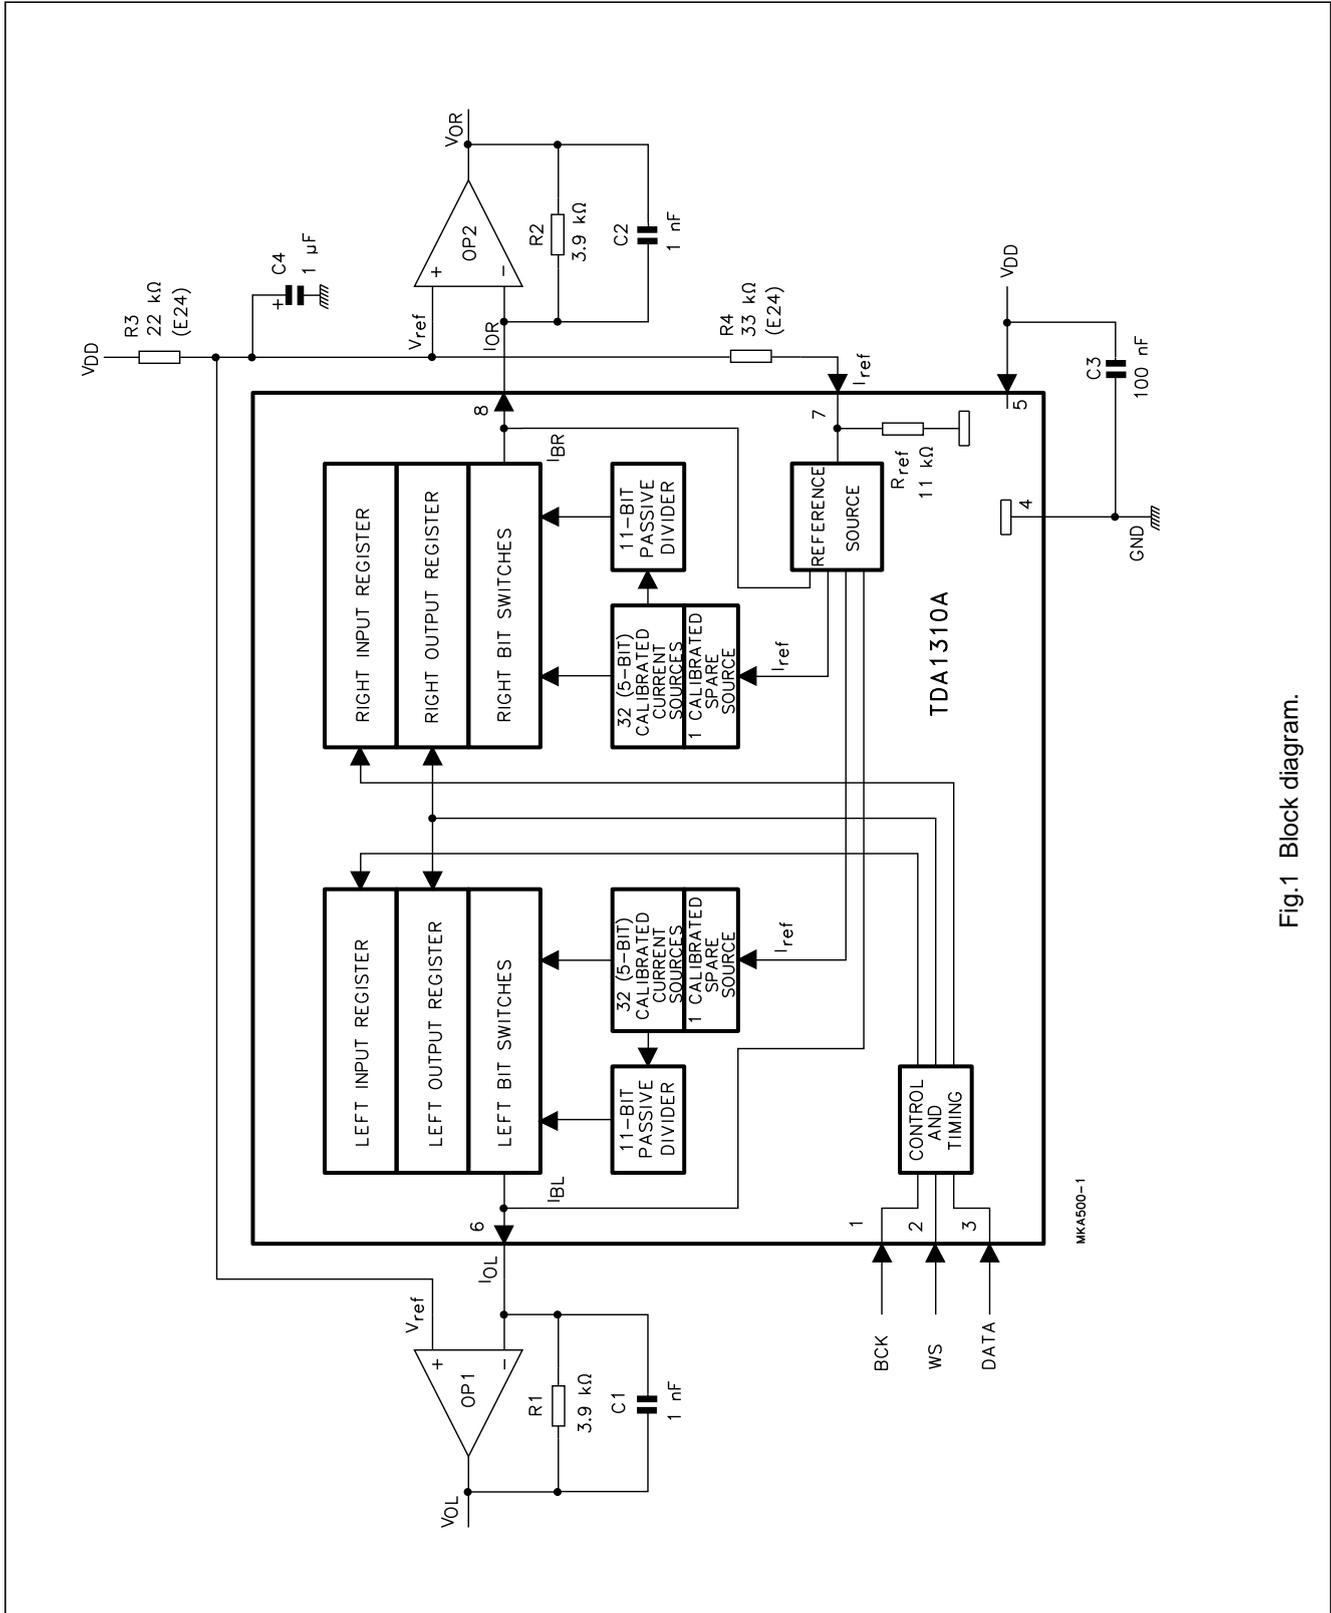

Fig.1 Block diagram.
The 32 current sources and the spare current source of the TDA1310A are continuously calibrated (see Fig.1). The spare current source is included to allow continuous converter operation. The output of one calibrated source is connected to an 11-bit binary current divider consisting of 2048 transistors. A symmetrical offset decoding principle is incorporated and arranges the bit switching in such a way that the zero-crossing is performed only by switching the LSB currents.
With a HIGH level on the word select input (WS), data is placed in the left input register, with a LOW level on the WS input, data is placed in the right input register (see Fig.1). The data in the input registers are simultaneously latched in the output registers which control the bit switches.
An internal bias current I_{bias} is added to the full scale output current I_{FS} in order to achieve the maximum dynamic range at the outputs OP1 and OP2 in Fig.1.
The reference voltage V_{ref} in Fig.1 is 2/3 V_{DD}. In this way maximum dynamic range is achieved over the entire power supply voltage range.
The tolerance of the reference input current in Fig.1 depends on the tolerance of the resistors R3, R4 and R_{ref}⁽³⁾.
$V_{DD} = 5\text{ V}$; $T_{amb} = 25\text{ °C}$; measured in Fig.1; unless otherwise specified.